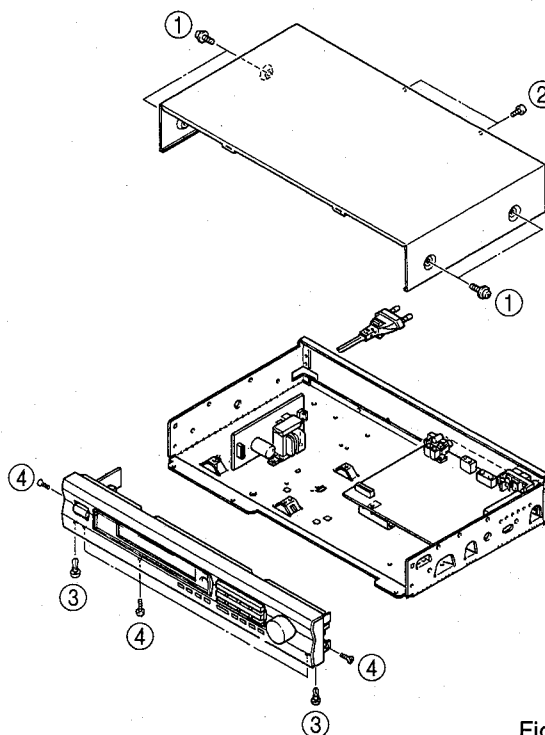

Fig. 1
Remove 4 screws (①) and 2 screws (②) in Fig. 1.
a. Remove 2 plastic rivets (③) in Fig. 1.
b. Remove 5 screws (④) in Fig. 1.